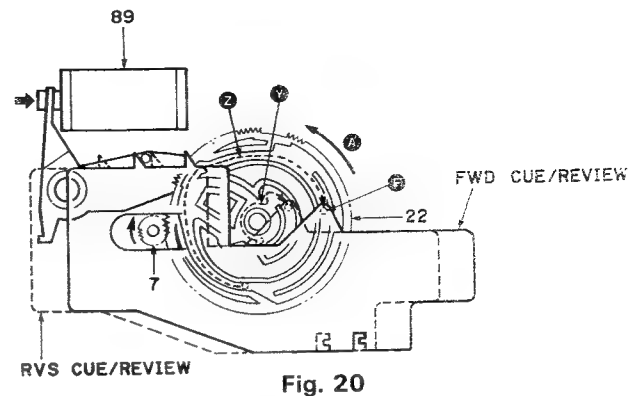

Fig. 20
- 6-4) In the transition from FWD PLAY to CUE/REVIEW, the pin (F) of the SLIDER passes through the FD GEAR orbit (Z) and moves to the CUE/REVIEW position of Fig. 20.
In the transition from RVS PLAY to CUE/REVIEW, the pin (F) of the SLIDER passes through the FD GEAR orbit (Y) and moves to the CUE/REVIEW position of Fig. 20.
- 6-6) The SLIDER is held by the protrusion (E1) of the SLIDER and pin (D) of the FD ARM.